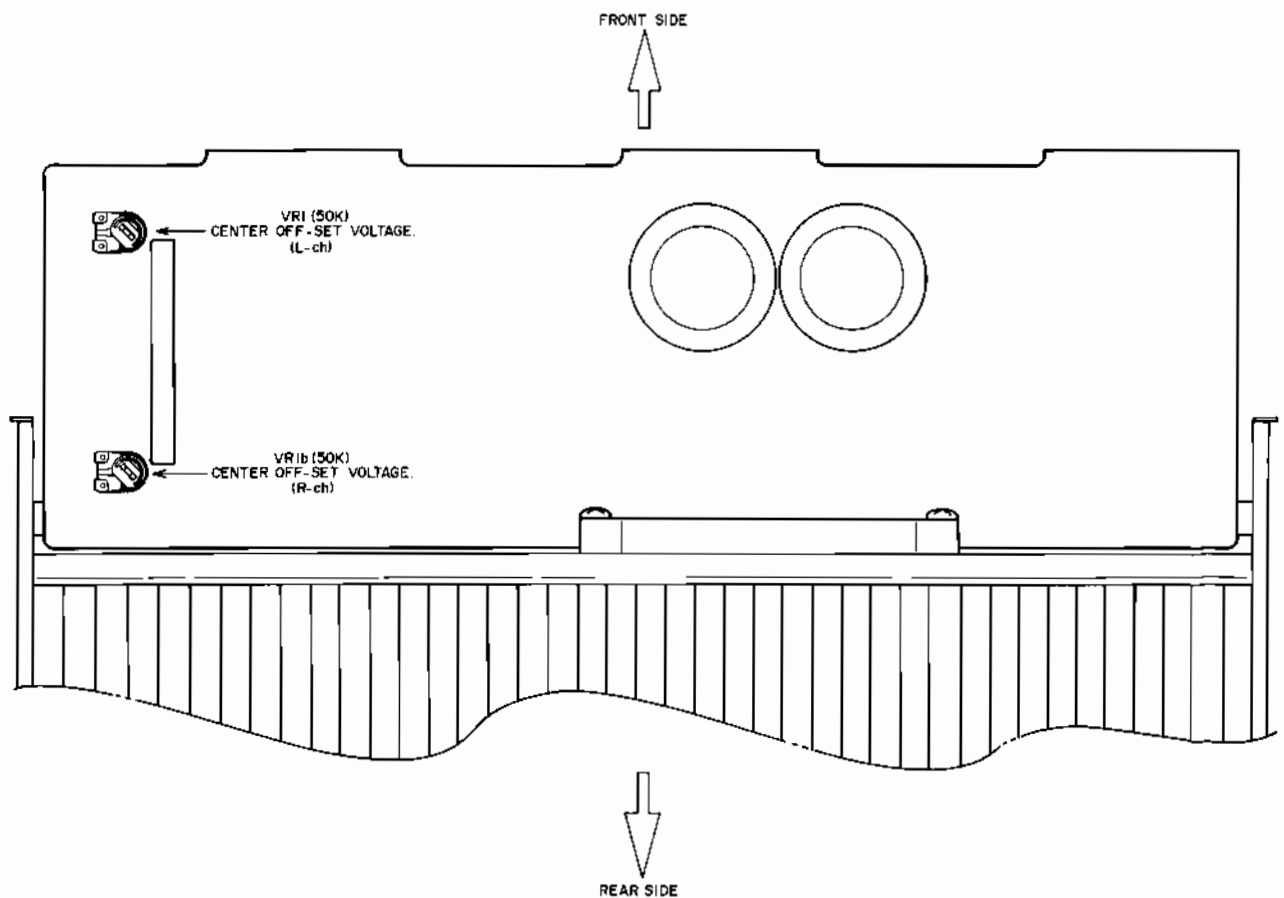

Fig. 6 Main Amp P.C Board
2. CENTER OFF-SET VOLTAGE ADJUSTMENT (Refer to Figs. 6, 8)